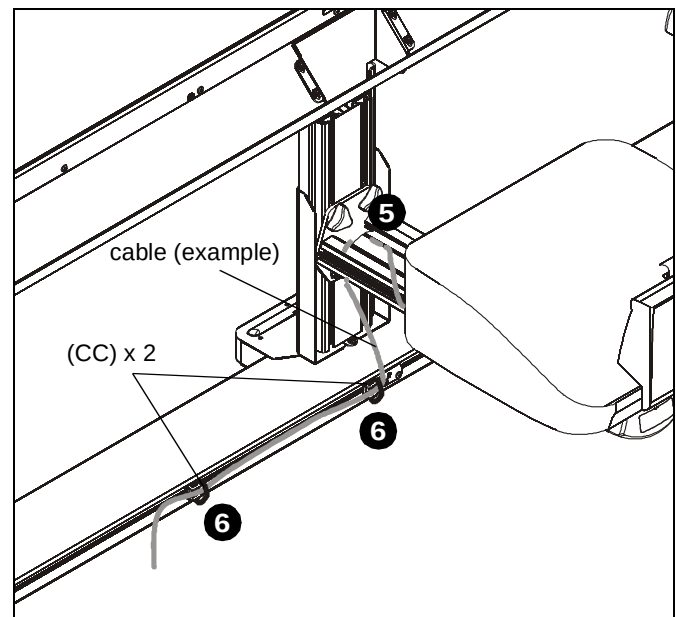

Figure 14
5. (Optional) Route cables from projector through boom arm channel down to cross bar assembly base. (See Figure 14)
6. Route cables through cable clips and use cable ties (Q) to secure cables along cross bar assembly base. (See Figure 14)